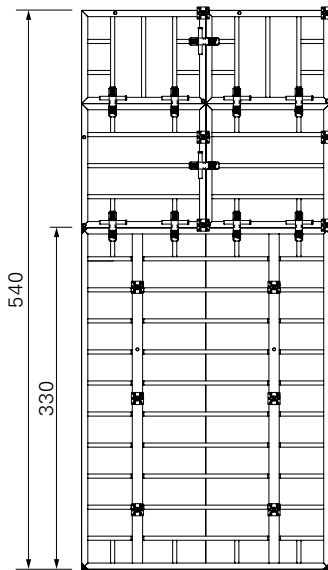

Fig. B1.07a
With height extension units < 5.40 m, the Alignment Coupler BFD (20) is used on the panel joints. (Fig. B1.07a + B1.07b)